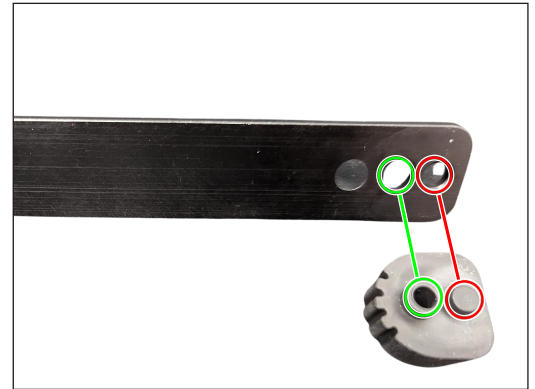

Fig. 5
2. Insert the new rubber foot into the holes as shown. (Fig. 5)